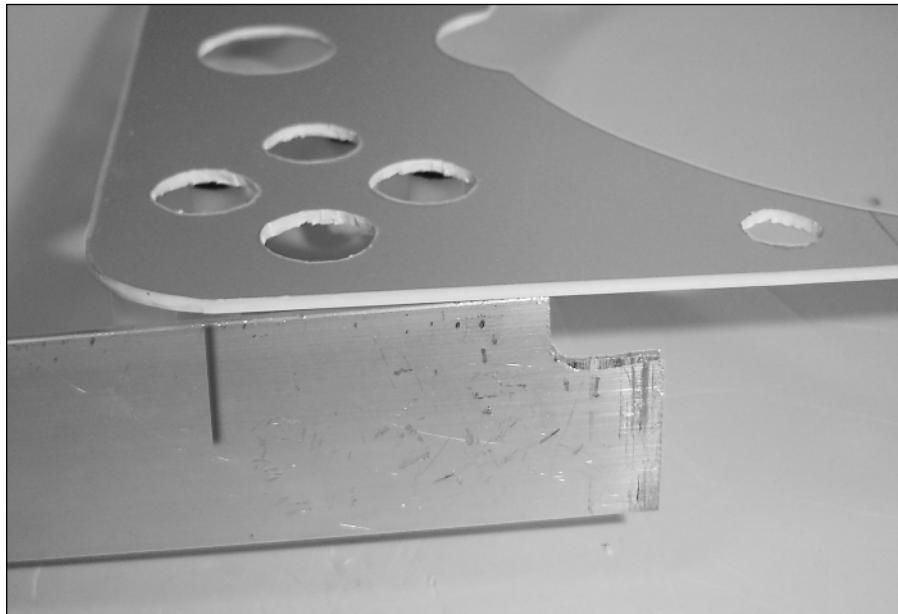

FIGURE 13-10: Where the notched end of the aluminum should start.
2. Now let's start bending and attaching the aluminum to the front plate. The notched end should be touching the plastic and just to the left (when viewed from the front) of the four main buttons. Figure 13-10 shows where the notched end should start on the plate.